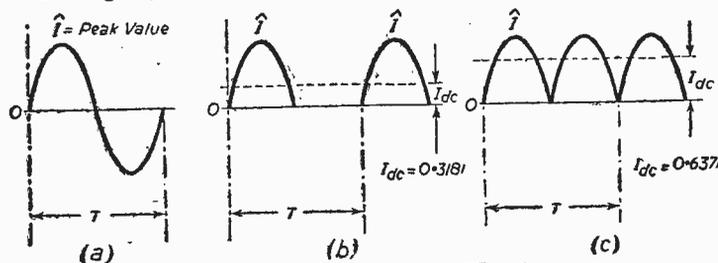

Fig 1.—A.C. and "Pulsating" Waveforms.
For example, how many can say offhand what is the R.M.S. value of a half-wave current, Fig. 1(b), compared with the value of the full sine-wave (a)? What is the *mean* value in the two cases?
As long as we are talking about current, or voltage, the average value of any purely *alternating* wave, such as Fig. 1 (a), is zero.
Thus, if we average over a full *alternating cycle* the answer is zero—that implies, of course, that we are dealing with a *reversing* (or *alternating*) current. The 0.637 refers to an average *D.C. value*, which we would get if the wave was fully *rectified* as in Fig. 1(c)—*full-wave* rectification gives rise to a mean D.C. component indicated by the dotted line.
Similarly, with *half-wave* rectification, Fig. 1(b), the average D.C. will be one-half of what it is in Fig. 1(c) =  $\frac{1}{2}$  of  $0.637I = 0.318I$ .
*no current is passing*—intervals of a half-cycle in Fig. 1(b). If we denote the time-period of one cycle by  $T$ , we get two pulses in time  $T$  in (c),
If this were true, no pure alternating current such as Fig. 1 (a) would develop power in any resistance—its mean value being zero! Yet we know the current would have a certain *effective* heating value, equivalent to a certain steady D.C. Though the *average current* is zero, an A.C. is quite capable of developing an *average power* in a resistance, represented, for example, by the